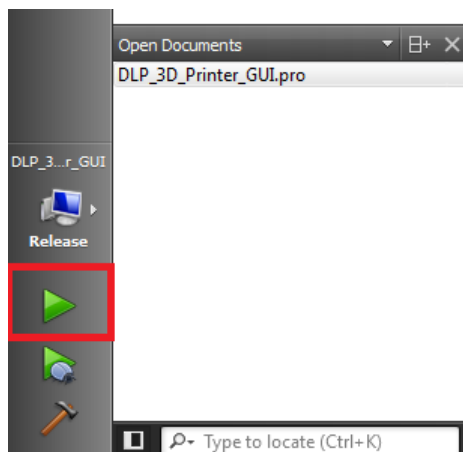

Figure 4-38. Running The DLP 3D Printer Reference Design GUI
- The project may now be built by clicking the **Run** or **Build** button in the lower left hand corner, as shown in Figure 4-38.